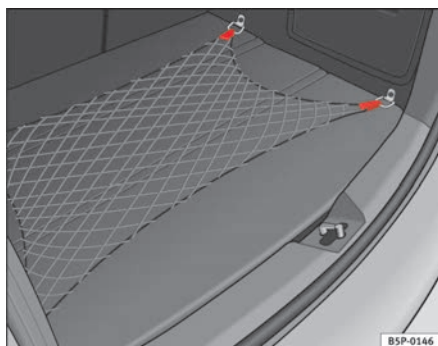

Fig. 107 Retaining net
- Use the fastening rings located on the side of the luggage compartment to attach the retaining net ⇒ fig. 107.